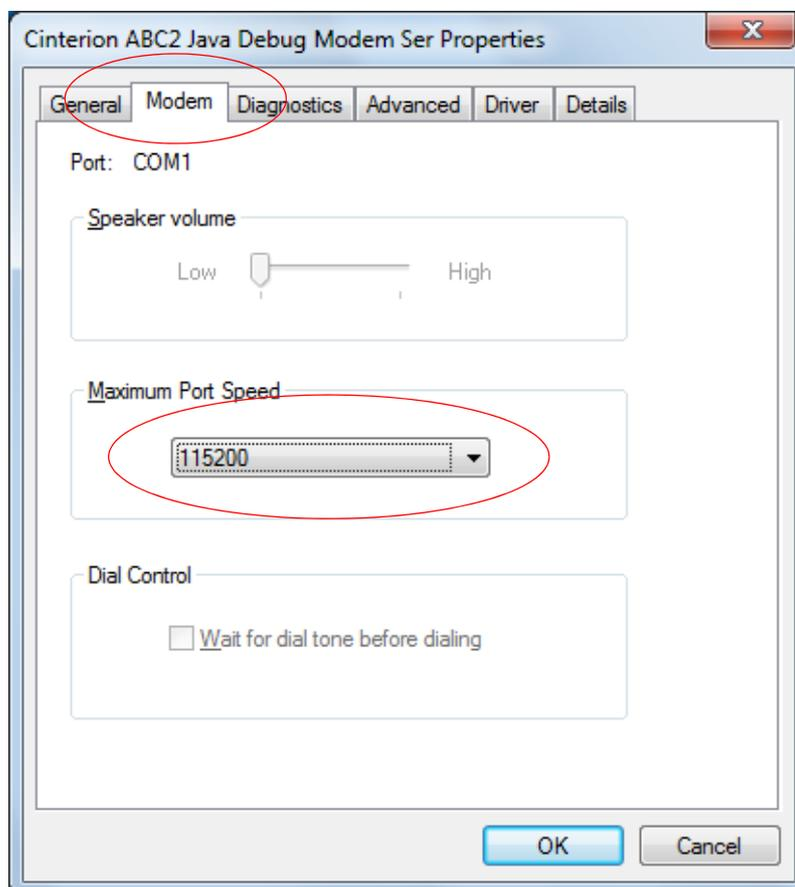

Figure 25: Specify maximum port speed for modem device
- First, the baud rate of the modem device "Cinterion ABC2 Java Debug Modem Ser" has to be set to the required maximum port speed. The modem properties are available via the Windows device manager or the phone and modem options (see Figure 25).